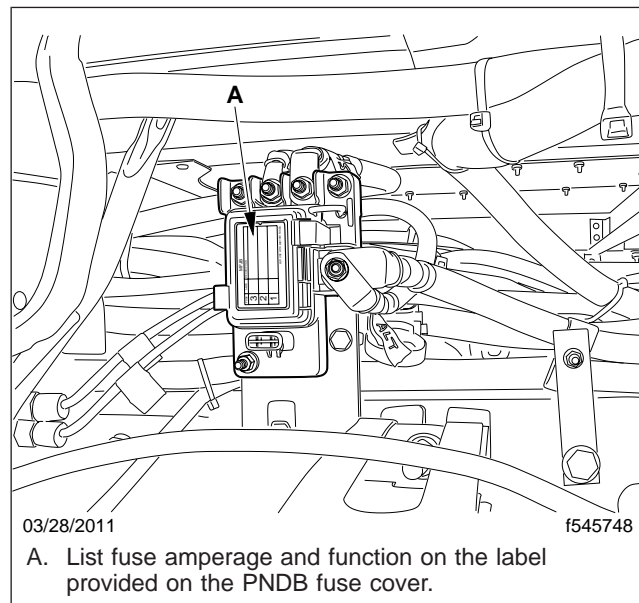

Fig. 4, PNDB Installed with New Fuses
7. Note the fuse amperage and location on the fuse cover with a permanent marker. See Fig. 4.